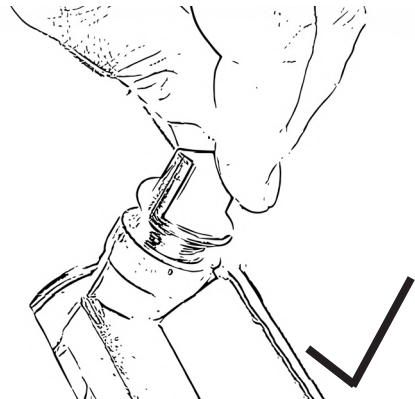

Figure 14
- Unscrew the oil filler plugs with connected dipstick, Fig. 14.